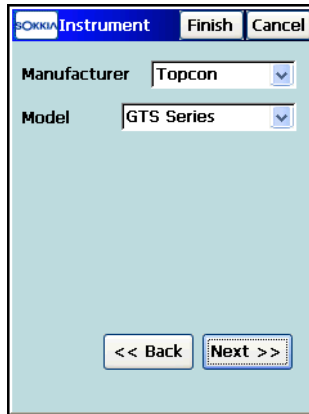

Figure 4-69. Instrument
3. In the *Instrument* screen, enter the manufacturer and model of the device, then tap **Next** (Figure 4-69 on page 4-54). Note that the models shown in the list correspond to the chosen type of survey. To simulate a real survey, select **Manual Mode**. In this mode, no measurements are performed, all the data is entered manually.